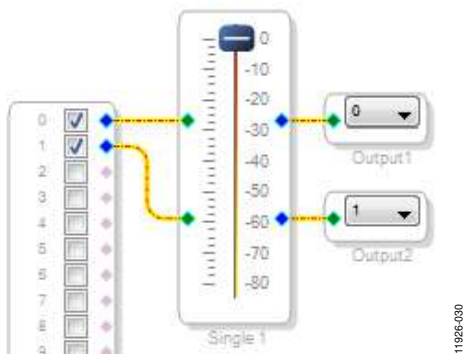

Figure 28. Completed Signal Flow with Volume Control
3. Connect the blocks as shown in Figure 28.